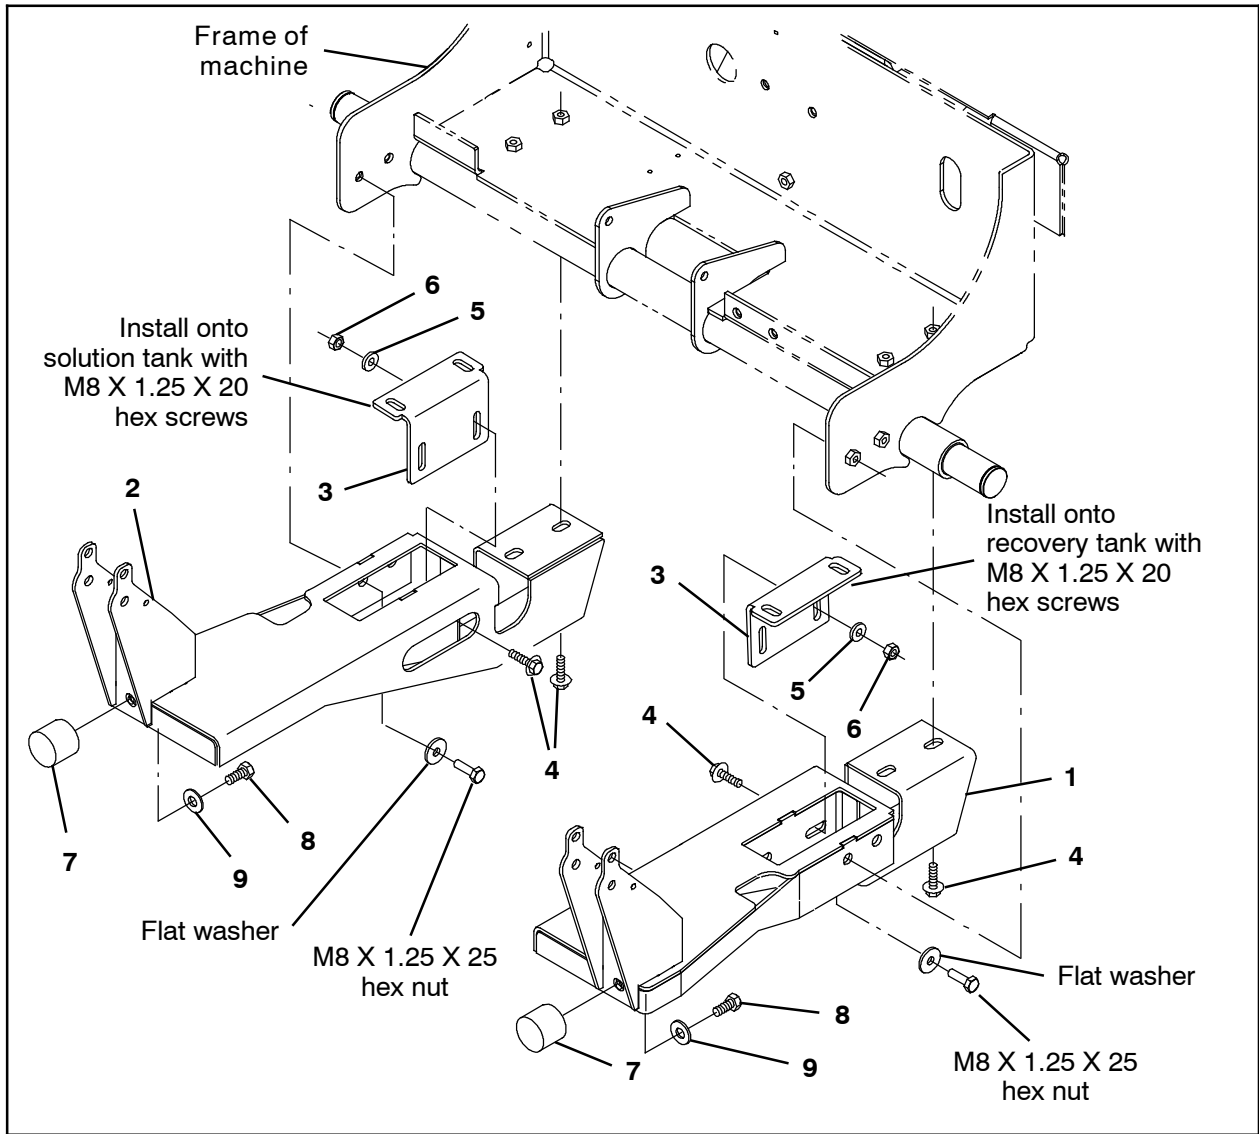

FIG. 3
2. Use two M8 X 1.25 X 20 hex screws and two flat washers removed in Step 1 to install one tank mounting bracket (3) onto the recovery tank where the right tank support bracket was previously installed. Do not completely tighten the hardware. Hardware is tightened during later adjustment. (Fig. 3)
3. Use two M8 X 1.25 X 20 hex screws and two flat washers removed in Step 1 to install one tank mounting bracket (3) onto the solution tank where the left tank support bracket was previously installed. Do not completely tighten the hardware. Hardware is tightened during later adjustment. (Fig. 3)
4. Use a hex screw (8) and a flat washer (9) to install a bumper (7) onto the right bumper channel (1) and left bumper channel (2). (Fig. 3)
5. Use two SEMS M8 hex screws (4) and the two M8 X 1.25 X 25 hex screws and flat washers removed in Step 1 to install the right bumper channel (1) onto the machine. Do not completely tighten the hardware. Hardware is tightened during later adjustment. (Fig. 3)
6. Use two SEMS M8 hex screws (4) and the two M8 X 1.25 X 25 hex screws and flat washers removed in Step 1 to install the left bumper channel (2) onto the machine. Do not completely tighten the hardware. Hardware is tightened during later adjustment. (Fig. 3)
7. Use two SEMS M8 hex screws (4), two flat washers (5), and two M8 hex nuts (6) to secure the tank mounting brackets (3) to the right bumper channel (1) and left bumper channel (2). Do not completely tighten the hardware. Hardware is tightened during later adjustment. (Fig. 3)
9. Tighten the SEMS M8 hex screws (4) holding the right bumper channel (1) and left bumper channel (2) to the bottom of the frame of the machine. (Fig. 3)
10. Tighten the M8 X 1.25 X 25 hex screws holding the right bumper channel (1) and left bumper channel (2) to the sides of frame of the machine. (Fig. 3)
11. Tighten the M8 X 1.25 X 20 hex screws to secure both tank mounting brackets (3) to the tanks. (Fig. 3)
12. Tighten the SEMS M8 hex screws (4) and M8 hex nuts (6) holding the tank mounting brackets (3) to the right bumper channel (1) and left bumper channel (2). (Fig. 3)